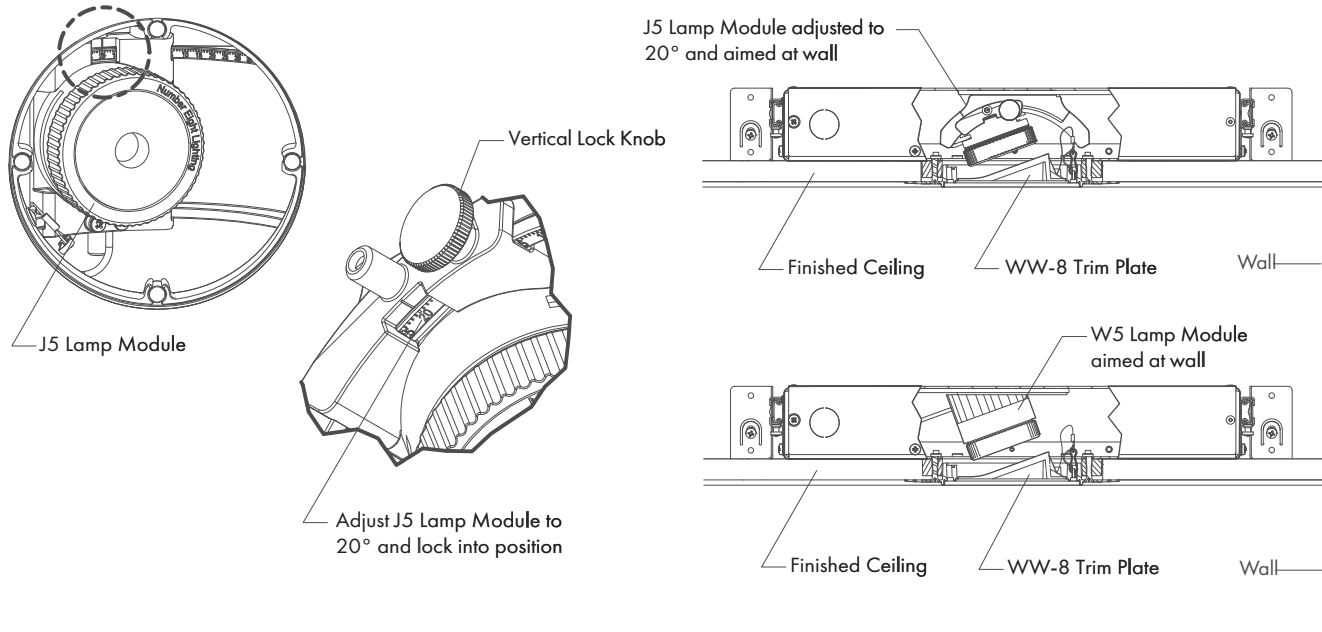

FIG 6.1 Orient Lamp Module with Wall
STEP 1 For J5 Lamp Module only: Loosen Vertical Lock Knob and adjust to 20° and lock in position - **FIG 6.1.**
STEP 2 Orient J5 or W5 Lamp Module toward wall - **FIG 6.1.** **Note:** For additional W5 orientation details, see **Page 5, FIG 5.1**